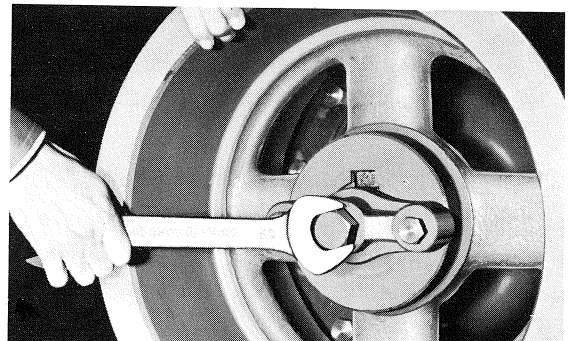

Fig. 29 Dismantling flywheel
- d) Remove belts or coupling and take off the flange and flywheel as shown in Figures 29 & 30.